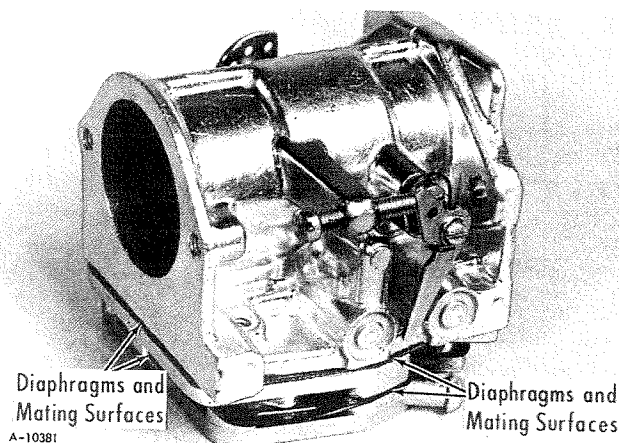

FIGURE 29
2. If bubbles occur at edges of the diaphragms and mating surfaces of the body or diaphragm plate (Figure 29), make sure the four fuel pump body screws are securely tightened. Then if leaks continue, install new diaphragm(s).